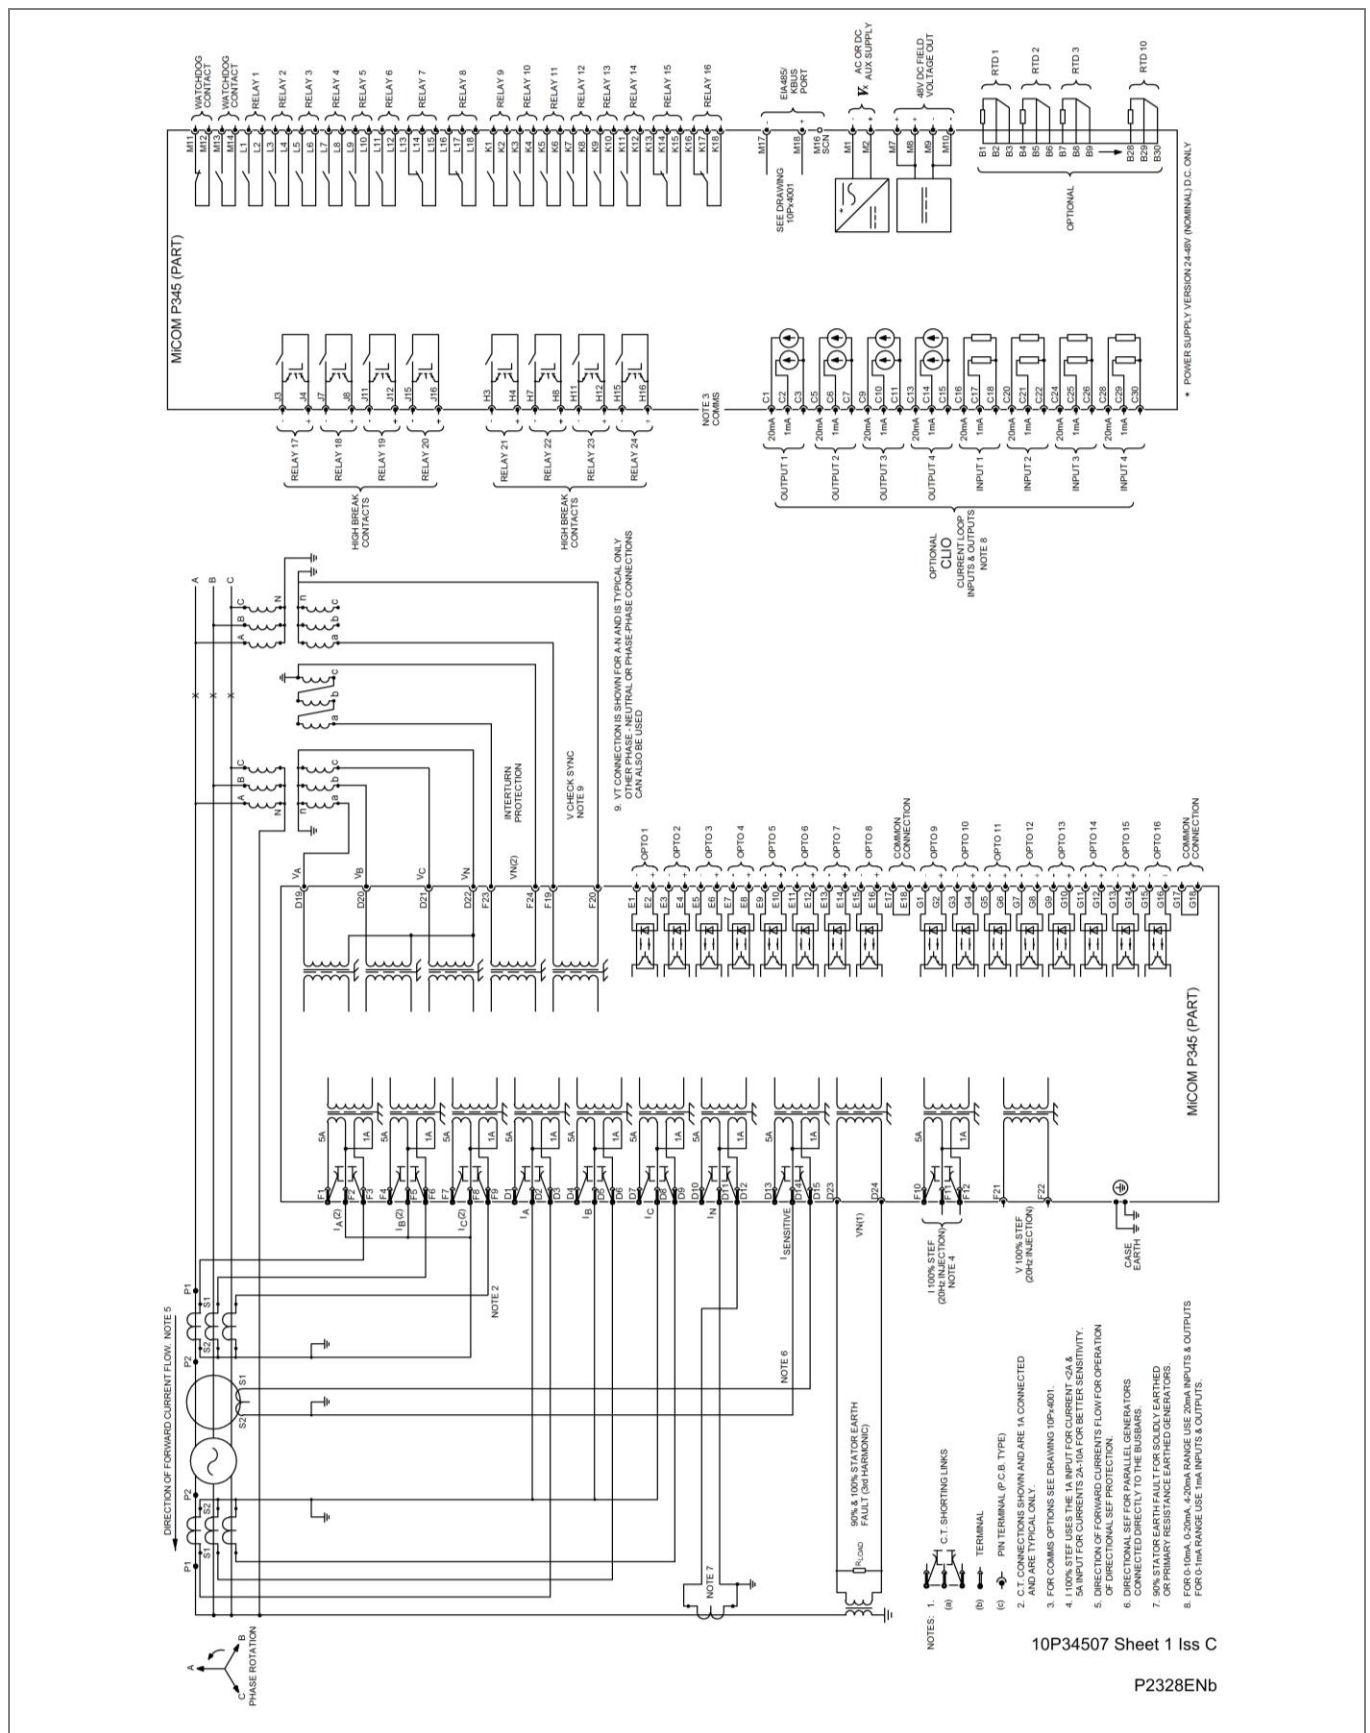

Figure 60 - P345 (80TE) with 90% & 100% (3rd Harmonic) stator earth fault & interturn protection (16 I/P & 24 O/P (8HB) & CLIO & RTD)
- Figure 60 - P345 (80TE) with 90% & 100% (3rd Harmonic) stator earth fault & interturn protection (16 I/P & 24 O/P (8HB) & CLIO & RTD)